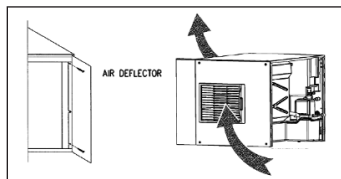

Fig. 10.
m) Air deflector installation. (Fig.10) The deflector has to be installed in order to prevent the re-circulation of hot air to the condenser.